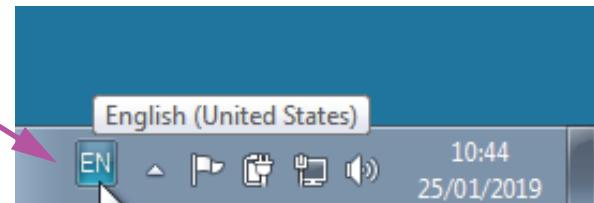

Figure C-19. Drop-Down Language Menu—Welcome Screen (Windows 7)
2. Click the two-letter icon and a menu similar to that shown at the left in Figure C-19 appears.